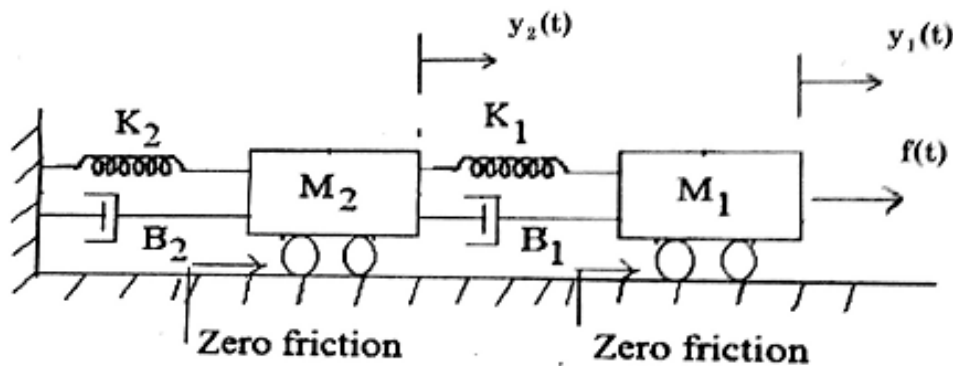

Fig. Q 11(b)(i)
- (b) (i) For the mechanical system shown in Fig. Q 11(b)(i).
(1) Draw the mechanical network diagram and hence write the differential equations describing the behaviour of the system.
(2) Draw the force-voltage and force-current analogous electrical circuits. (6+4)